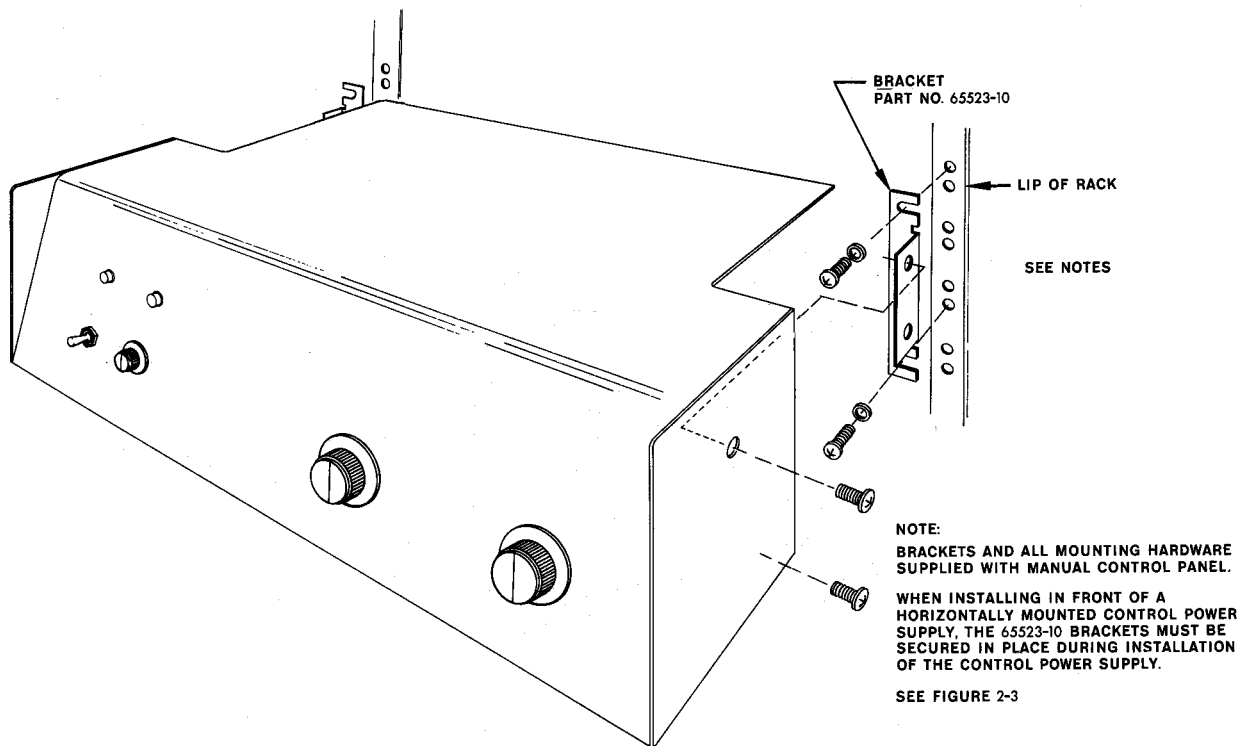

Figure 2-4
Step 6: Fasten the manual control panel to the Ampex Part No. 31 01151 10 bracket (Figure 2-4) using the four 6-32 by 3/8-inch flat head screws supplied with the manual control panel.